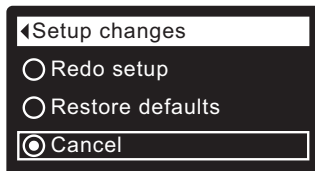

FIG. 30
1. From any of the rolling status screens, press the SELECT (O) button to display the **Main menu**.
3. Press the SELECT (O) button to display the Advanced settings menu.
5. Press the SELECT (O) button to display the Troubleshooting menu.
7. Press the SELECT (O) button to display the Setup changes menu (See Figure 30).
8. Press the RIGHT (►) button. The flashing padlock icon will disappear, as shown in Figure 30.
9. Press the SELECT (O) button.